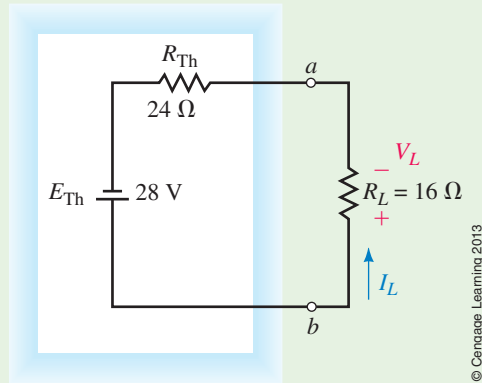

FIGURE 9–13
Step 5: From Figure 9–11, the open-circuit voltage between terminals a and b is found as
Step 6: The resulting Thévenin equivalent circuit is shown in Figure 9–13.